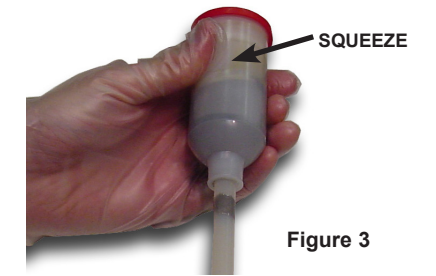

Figure 3
- Squeeze the cartridge in the area of the removed tape band to deform the foil barrier between the two materials. See Figure 3.